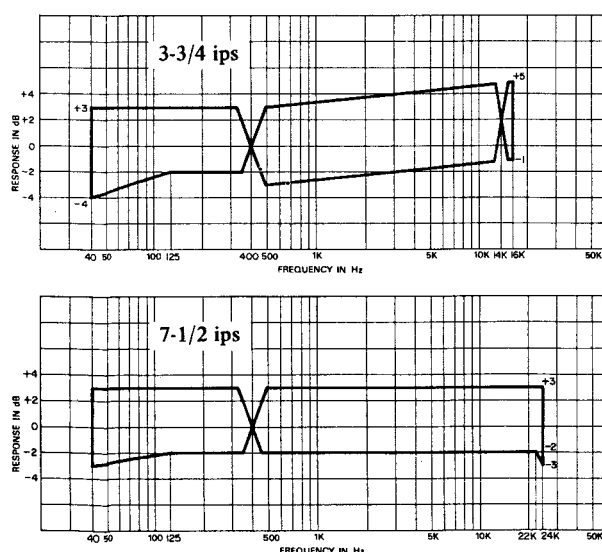

Fig. 8-10 Frequency Response — OVERALL — 1
20. During recording, monitor the Tape signal and adjust equalization L-301/L-303 for readings within the Response Limits charts. See Fig. 8-10 below.
22. Apply signal swept from 40 Hz to 24 kHz, -28 dB (30.8 mV) and while monitoring the off-the-Tape signal check for readings within the Response Limits charts. See Fig. 8-10 below.